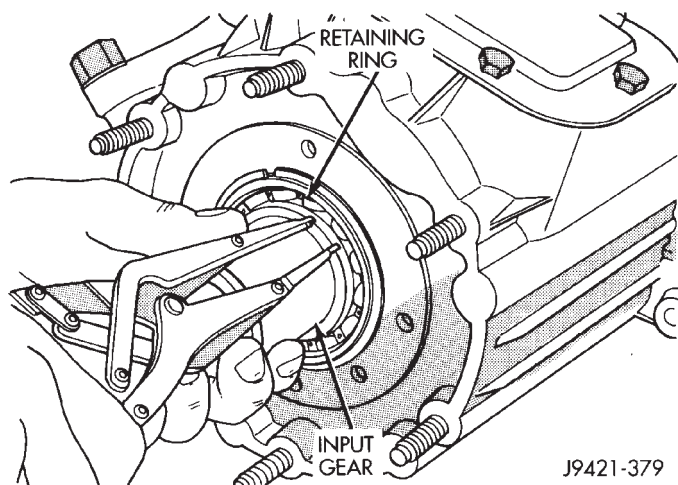

Fig. 17 Input Gear Retaining Ring Removal
- (5) Remove input gear retaining ring (Fig. 17).